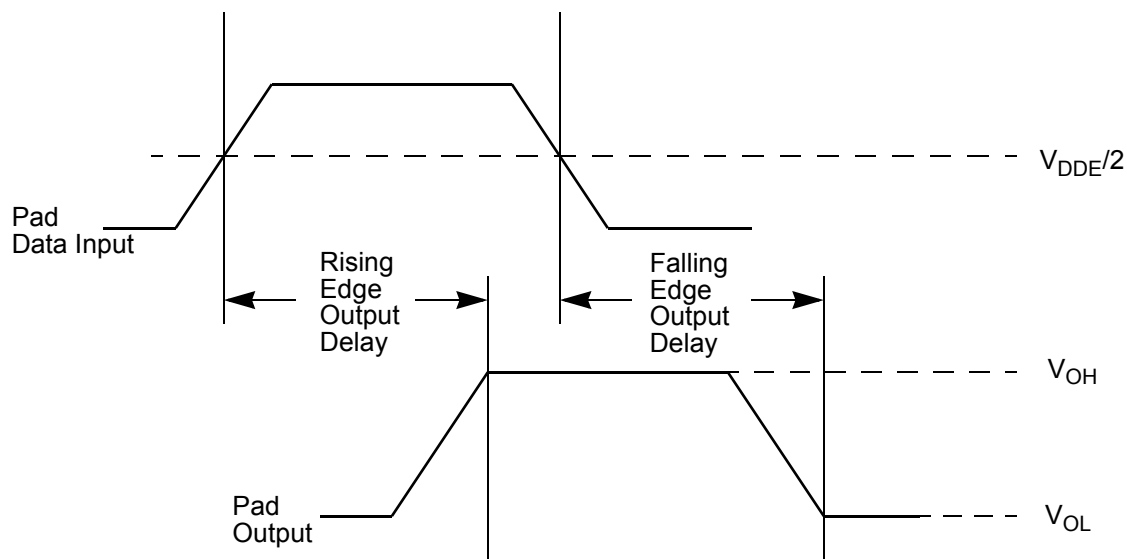

Figure 8. Pad output delay
- 8 Output delay is shown in Figure 8. Add a maximum of one system clock to the output delay for delay with respect to system clock.
7 Output delay is shown in Figure 8. Add a maximum of one system clock to the output delay for delay with respect to system clock.